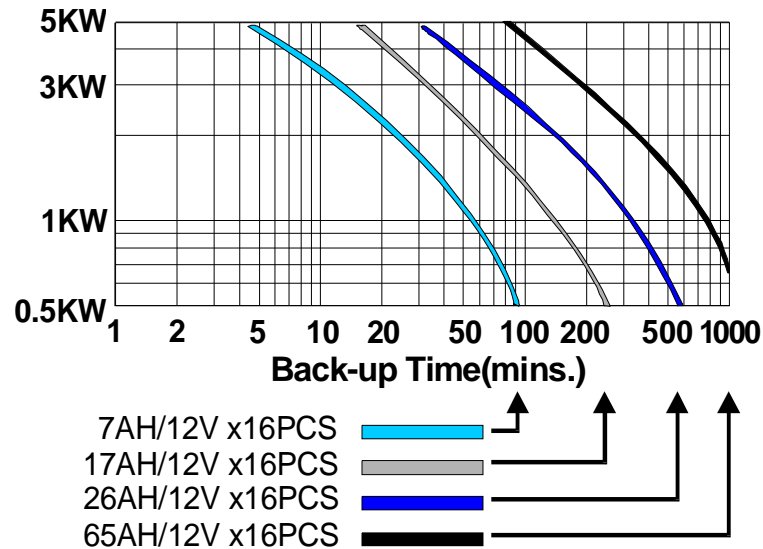

Figure 25: Battery Back Up Time
2. Battery Back Up Time (Fig.25)